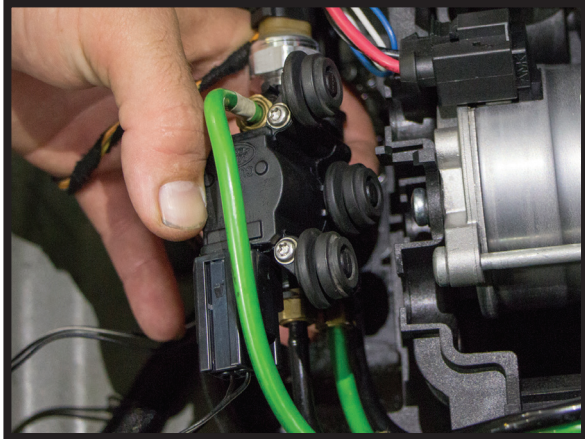

FIGURE 20
3. INSTALL THE VALVE BLOCK ONTO THE MOUNTING BRACKET. (FIGURES 20, 21)